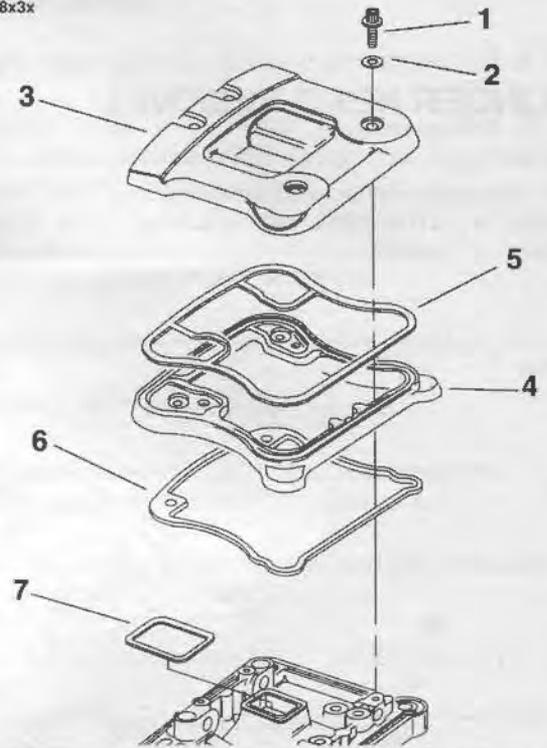

Figure 3-6. Upper and Middle Rocker Arm Covers
2. See Figure 3-6. Remove upper (3) and middle (4) rocker arm covers. Remove gaskets (5, 6 and 7) and discard.